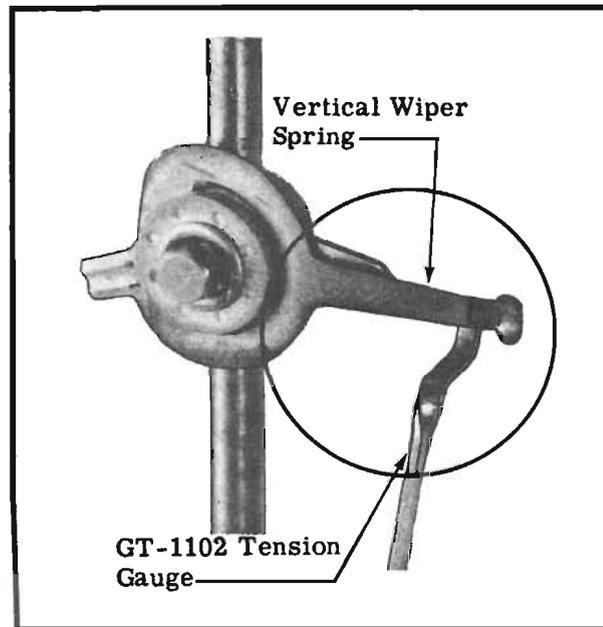
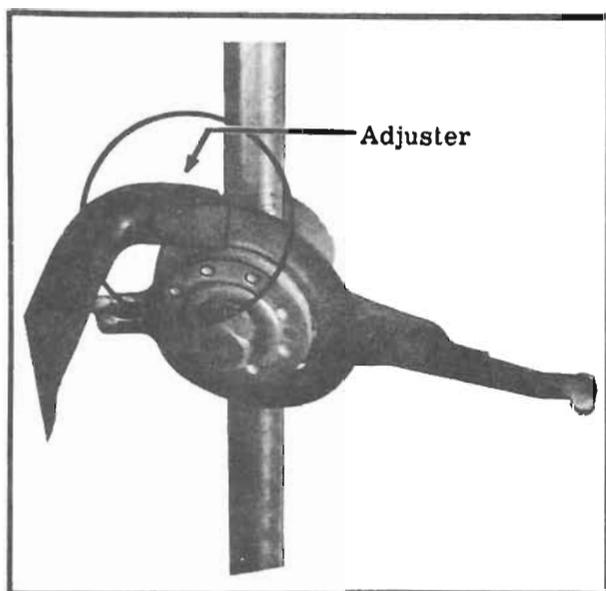

Figure 21. Tension Gauge is Being Used for Checking Vertical Wiper Spring Tension.
Figure 22. Spring Adjuster is Being Used to Adjust Tension of Vertical Wiper Spring.
3.40 Check vertical wiper tension (30 gms. to 45 gms.). To check, move the shaft vertically to position the vertical wiper on any vertical bank contact. Place the GT-1102 tension gauge as shown in Fig. 21. Pull gauge until tip just leaves bank contact. To adjust, place the H-7066 adjuster as shown in Fig. 22. Bend as required.